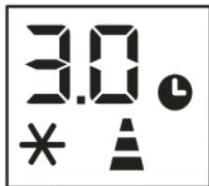

Fig 5
- When the appliance is running, press the  button, the screen will display hours, and several symbols are flash together. (fig 5)